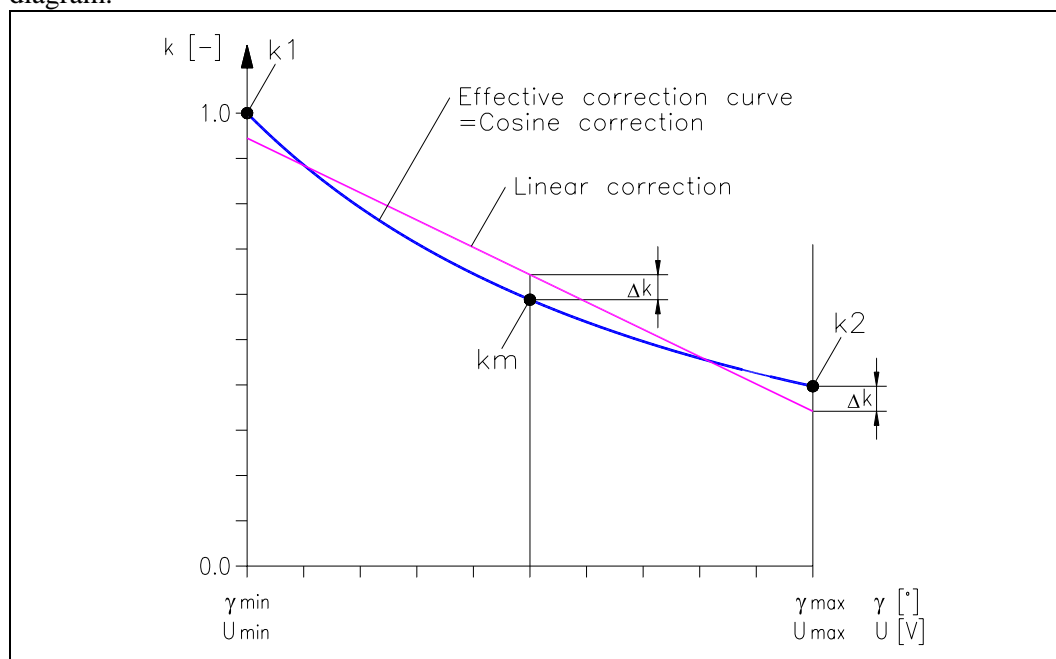

fig. 14: Correction curves for gain factor
- Check the voltage signal of the distance sensor (should be approx. 0...3V). Proceed for parameter function *Cal. gain cos 1*; the correction  $k1$  (ref. to fig. 14) will be saved.
- Check the voltage signal of the distance sensor (should be approx. 4...6V). Proceed for parameter function *Cal. gain cos 2*; the correction  $km$  (ref. to fig. 14) will be saved.
- Check the voltage signal of the distance sensor (should be approx. 7...10V). Proceed for parameter function *Cal. gain cos 3*; the correction  $k2$  (ref. to fig. 14) will be saved.
If the three points  $k_1$ ,  $k_m$ ,  $k_2$  can't be reached during simulating setup, a linear correction can be calculated. A straight line is centered to the effective correction curve by setting the parameters *Correction at 0V* and *Correction at 10V* to appropriate values (fig. 14). However, this procedure will cause a certain error. The maximum error  $e_{max}$  appears at the maximum wrap angle ( $\gamma_{max}$ ).